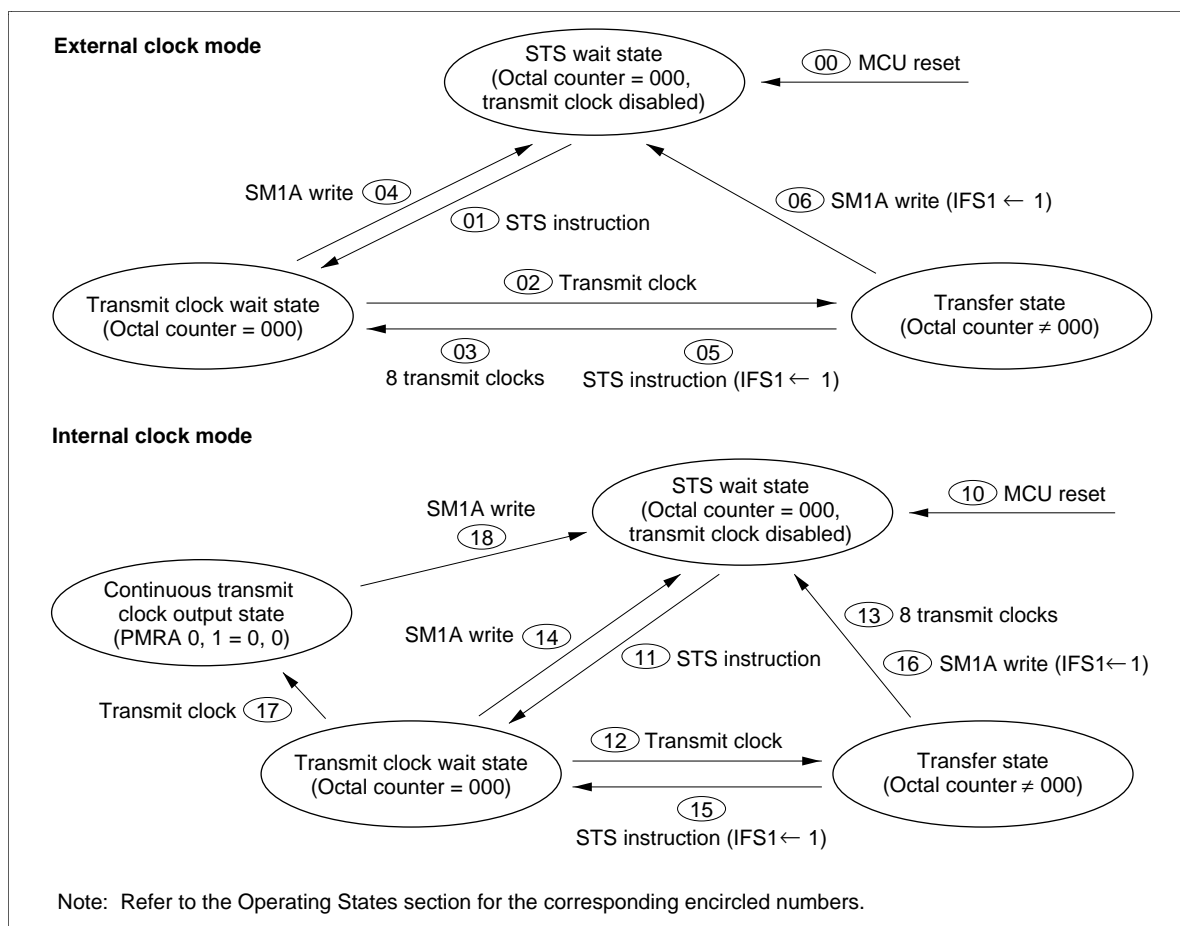

Figure 50 Serial Interface State Transitions
Operating States: Serial interface 1 has the following operating states; transitions between them are shown in figure 50.
- **STS wait state:** The serial interface enters STS wait state by MCU reset (00, 10 in figure 50). In STS wait state, serial interface 1 is initialized and the transmit clock is ignored. If the STS instruction is then executed (01, 11), serial interface 1 enters transmit clock wait state.
- **Transmit clock wait state:** Transmit clock wait state is between the STS execution and the falling edge of the first transmit clock. In transmit clock wait state, input of the transmit clock (02, 12) increments the octal counter, shifts serial data register 1 (SR1L: \$006, SR1U: \$007), and enters the serial interface in transfer state. However, note that if continuous clock output mode is selected in internal clock mode, the serial interface does not enter transfer state but enters continuous clock output state (17).